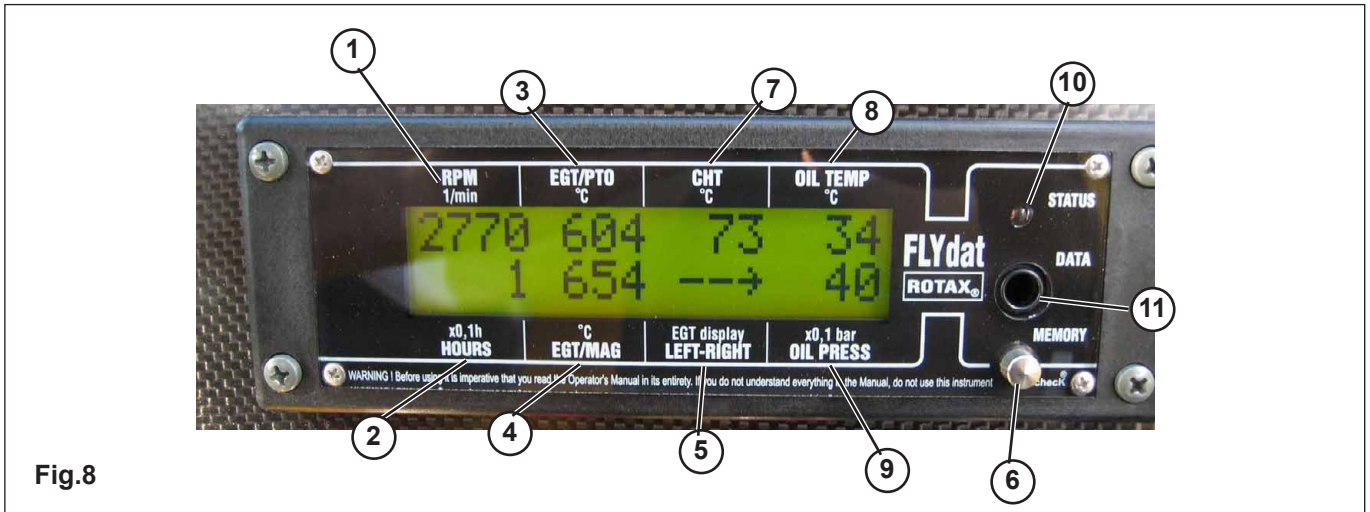

Fig.8
- 27) Digital engine monitoring system - FLYDAT (Fig. 8)**